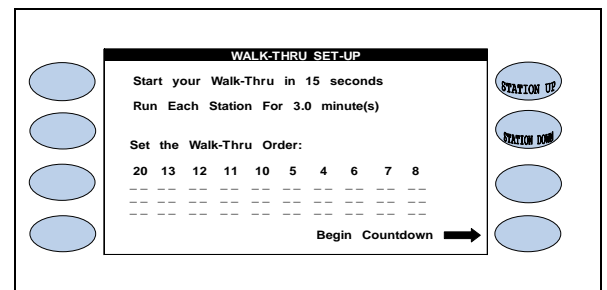

Figure 10.10
7.  Press the **BEGIN COUNTDOWN** Menu Key (Figure 10.10).